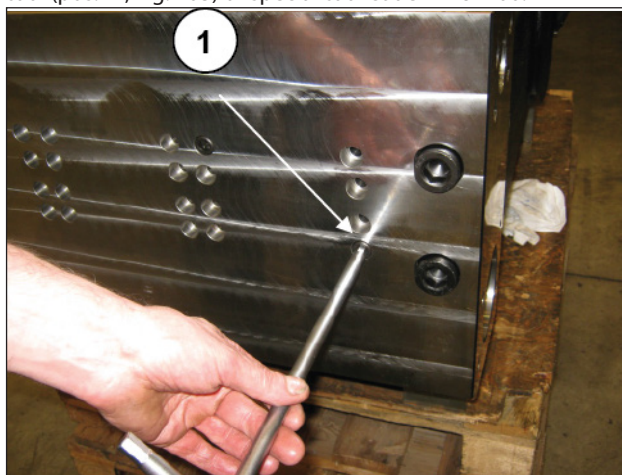
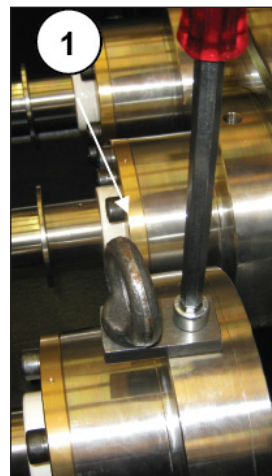

Fig. 202
Fig. 203
Disassemble the piston unit by unscrewing the sleeve fixing screws (pos. ①, Fig. 202), after fitting the special unit support tool (pos. ①, Fig. 203) or special tool code 27781100.